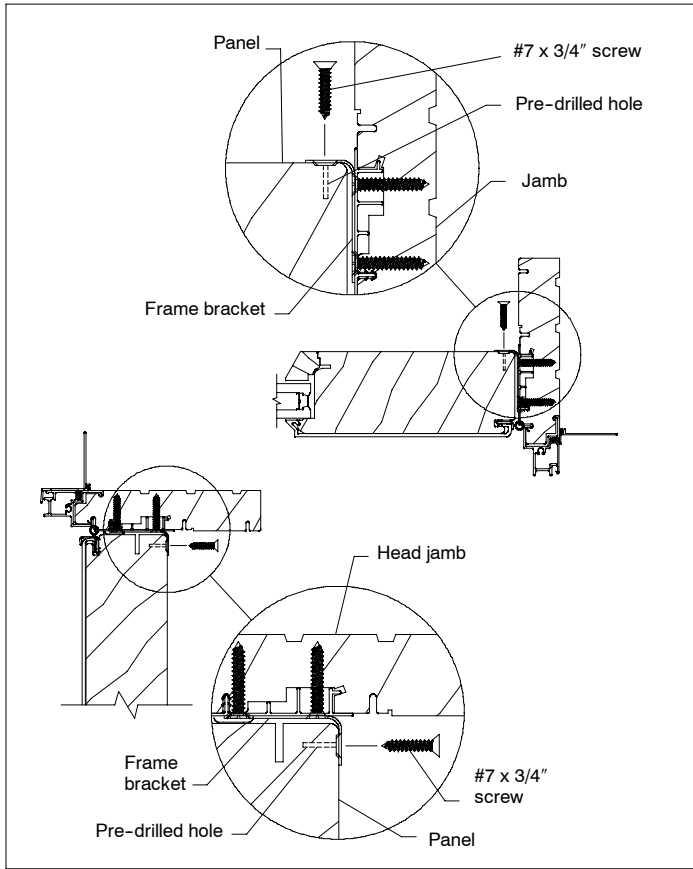

Figure 5
- Pre-drill 1/2" deep screw holes through the frame brackets into the panels using a 1/8" drill bit. Insert and tighten the #7 x 3/4" screws through the head and jamb brackets. See figure 5.